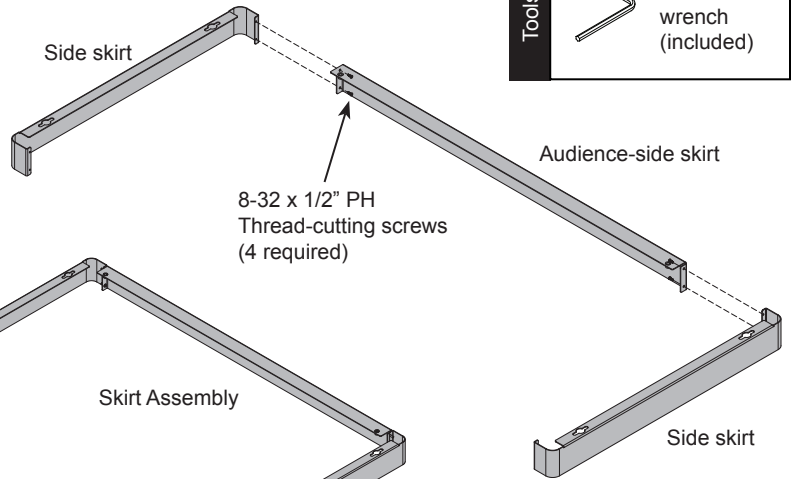

Figure 1A
1. Attach the two side skirts to the audience-side skirt with (4) 8-32 x 1/2" PH Thread-cutting screws. **Figure 1A.**